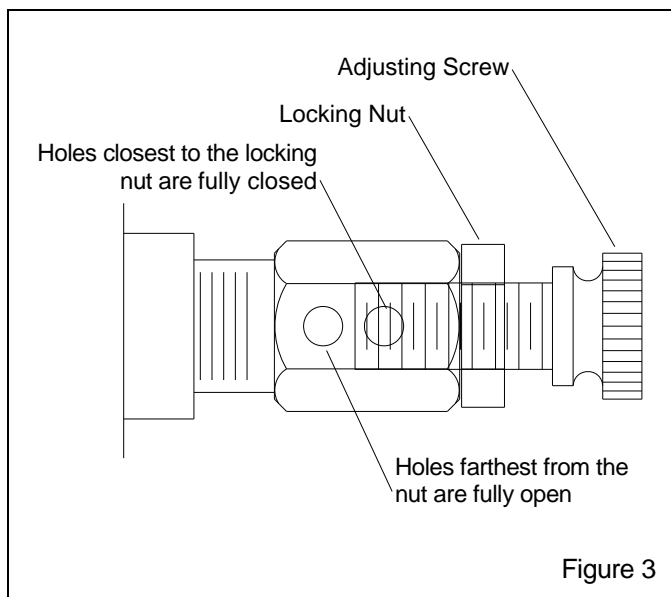

Figure 3
4.3 Media/Air Mixture, Figure 3
4.3.2 If the air exiting the nozzle pulses or if media does not flow smoothly, the metering valve requires adjusting. To adjust, loosen the locking nut, and adjust the metering screw until the holes closest to the locking nut are closed-off, and the holes farthest from the nut are fully open, as shown in Figure 3. This adjustment is a starting point.